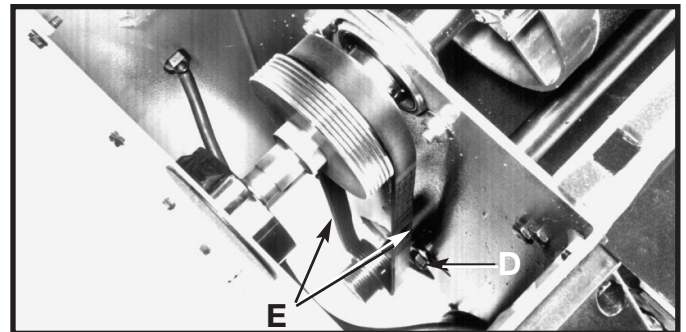

Fig. 28
4. After the belt (E) Fig. 28 has been repositioned or replaced on the pulleys, apply downward pressure on the motor and tighten the two hex head bolts (D) (loosened in STEP 3).
5. Use light finger pressure on the belt (E) Fig. 28 midway between pulleys to check for proper tension. A deflection of approximately 3/16" is correct.